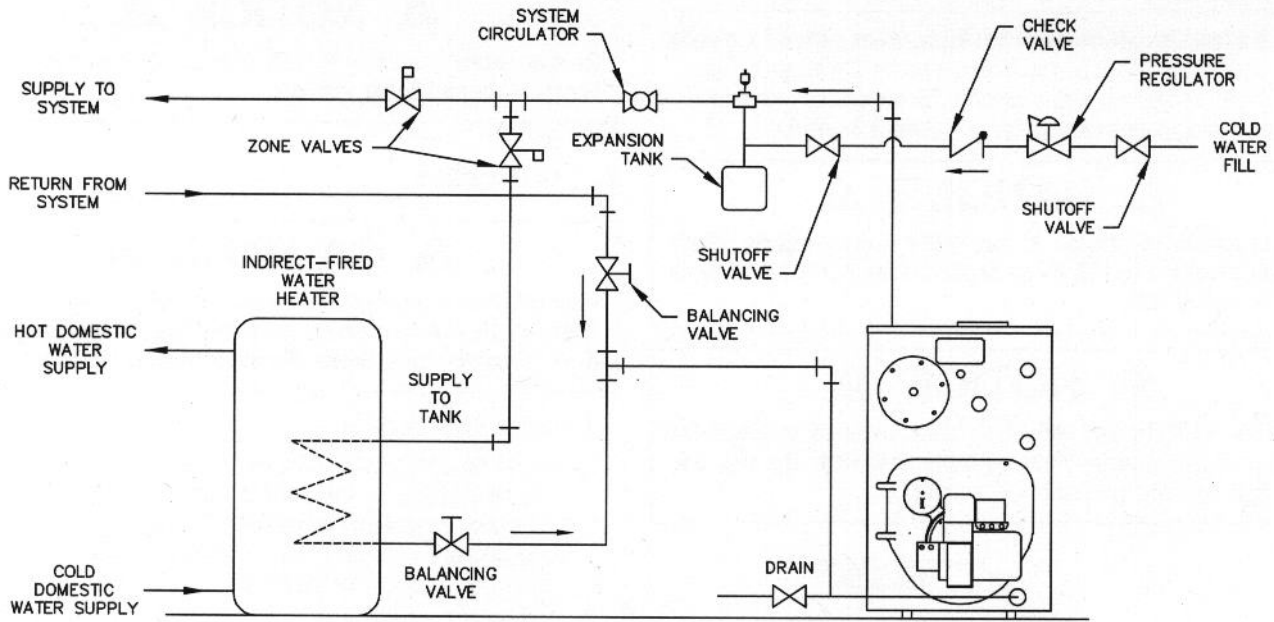

Figure 3.6: Piping with Indirect Water Tank
5. If using an indirect fired water heater or other, see Figure 3.6 for typical piping. Also refer to additional instructions supplied with the water heater.